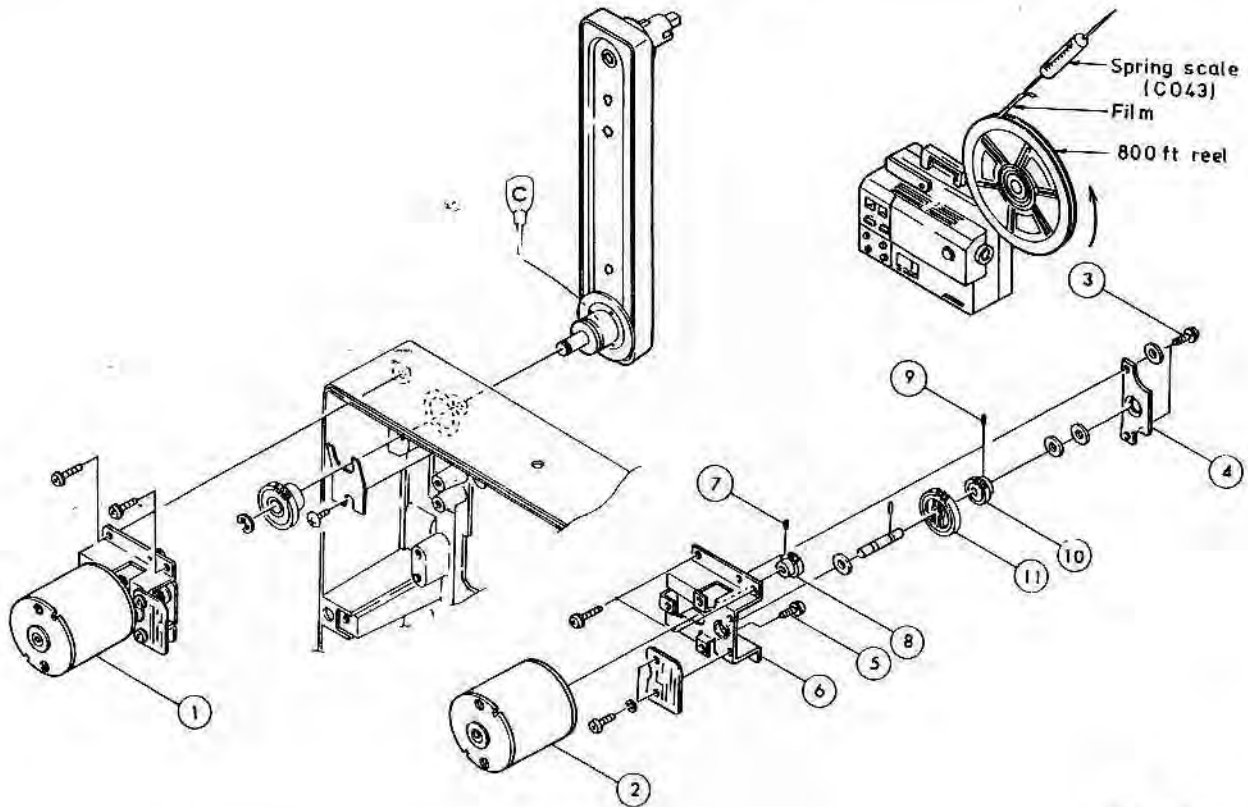

FIG. 32
TROUBLESHOOTING: (Refer to Fig. 32)
2. Make disassembly procedures in accordance with order of the reference numbers in Fig. 32.